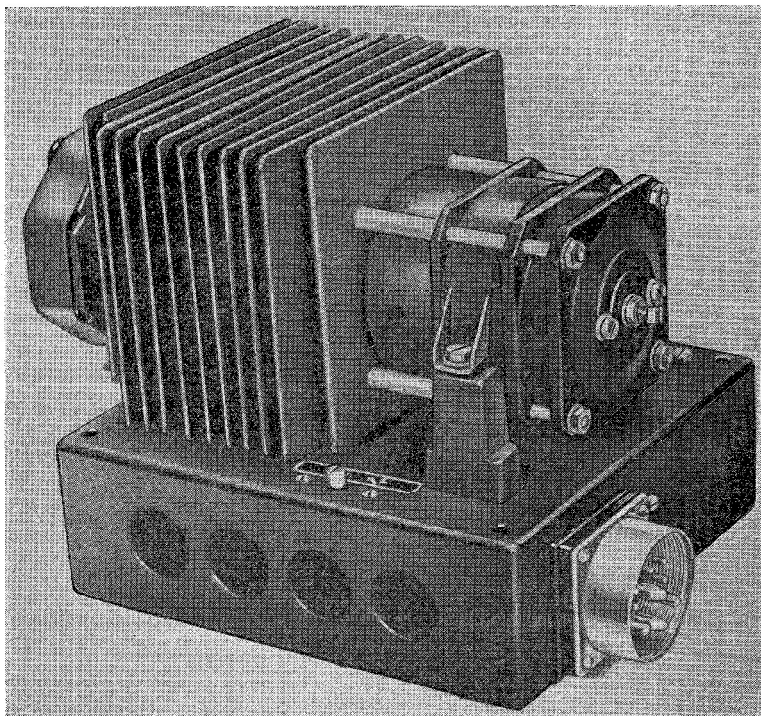

Fig. 1. Voltage regulator, Type 50/42909E (main)
3. This regulator (Fig. 1) is of the single carbon pile type, and in general construction and principle of operation is similar to the standard design as described in A.P.113D-0003-16 (formerly A.P.4343, Vol. 1, Sect. 6, Chap. 1). The pile is approximately 4 in. long, and consists of not less than fifty 0.5 mm. washers. The pile is built up of two 0.5 mm. washers, interleaved with a 3 mm. washer, starting and finishing with a 3 mm. washer.